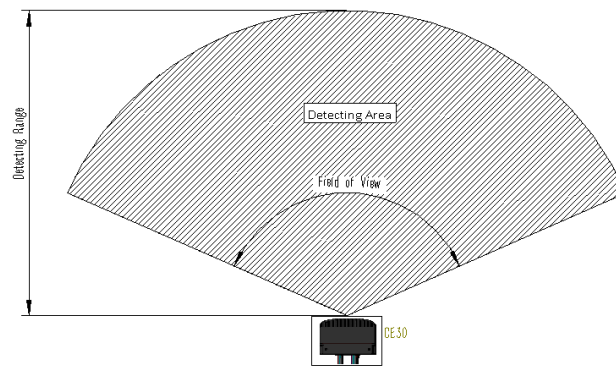

Figure 6 Illustration of Detecting Range and Area
CE30-A captures the distance information of all the obstacles within the detecting range and the FOV. The detecting area is shown in Figure 6.
The farthest detecting range of each angle has been optimized for general obstacle avoidance scenarios, which are different from regular detecting range. The schematic diagram is shown in Figure 6 (Customization is available for special requirements).
- 1) The data provided by the LiDAR is the projected distance of the obstacle to the front surface of the machine, and the angle of the nearest point of the obstacle, i.e. (z, θ). The center of the FOV is 0 degree, the left is negative and the right is the positive. See Figure 6.